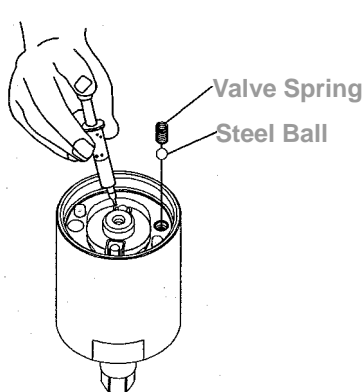

Fig.140
- ③ Fill up the interior pulse cylinder with the pulse oil about 90% full by an injector. Put the steel ball and the valve spring into the hole on the pulse cylinder in order. (Fig. 140)